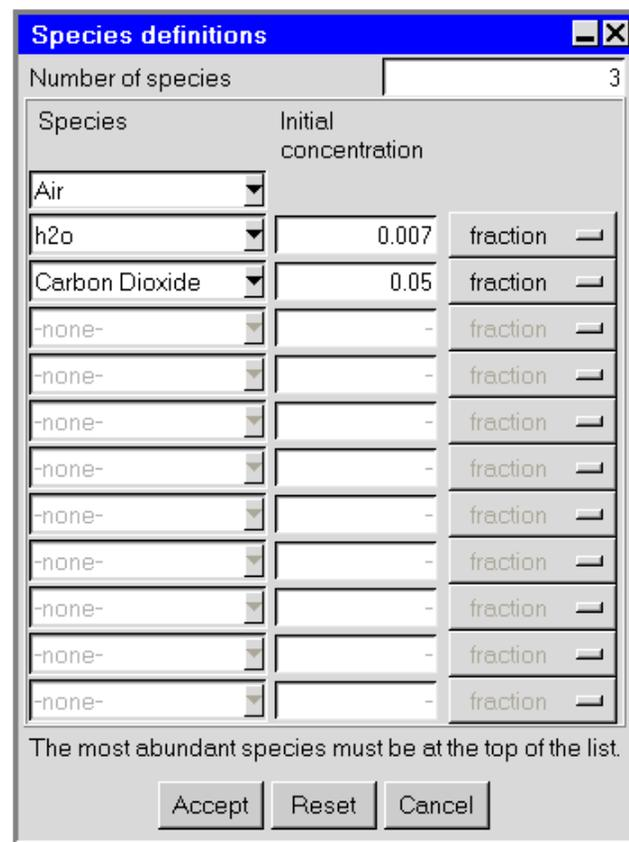

Figure 21.2.2: The Species definitions Panel
2. To define the species to be included in the problem, click Edit next to Species to open the Species definitions panel shown in Figure 21.2.2.
3. Specify the species concentrations for the objects to be included in your **Airpak** model. Note that, for 2D objects, you will set concentrations explicitly only for the last $N - 1$ species for each object. The solver will internally convert your inputs to mass fractions for all species and then compute the mass fraction of the most abundant species (the first species in the list in the **Species definitions** panel shown in Figure 21.2.2) by subtracting the total of the mass fractions for the object from 1.